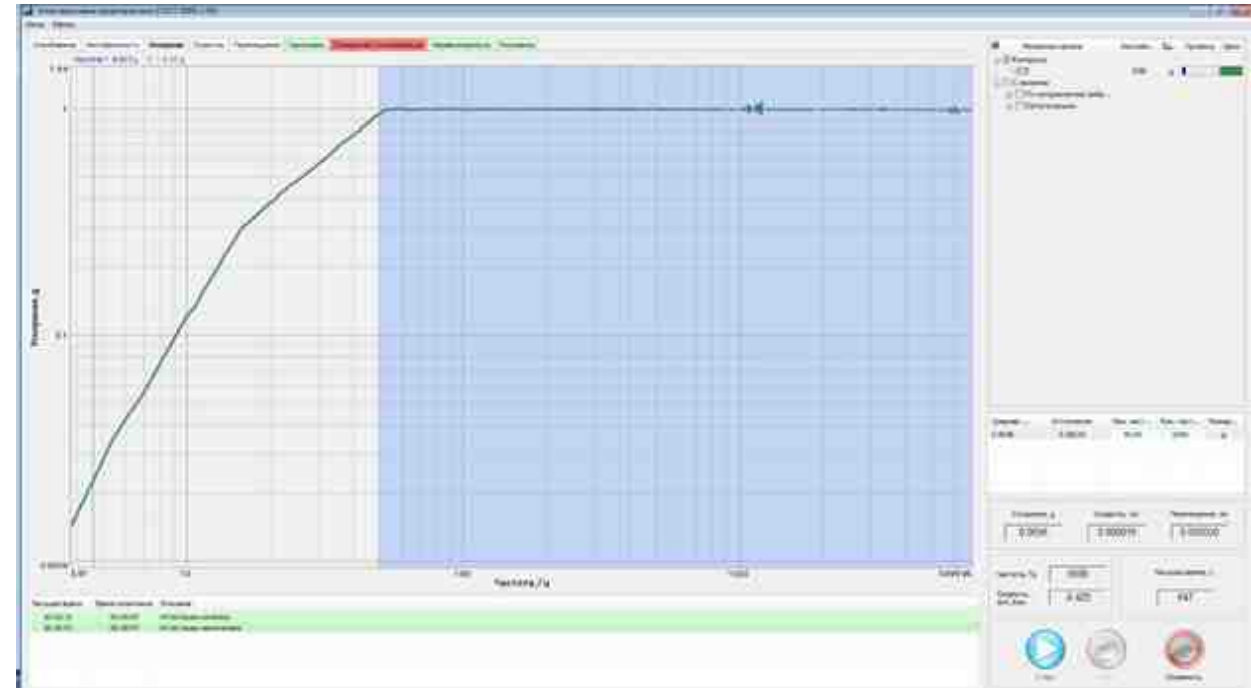
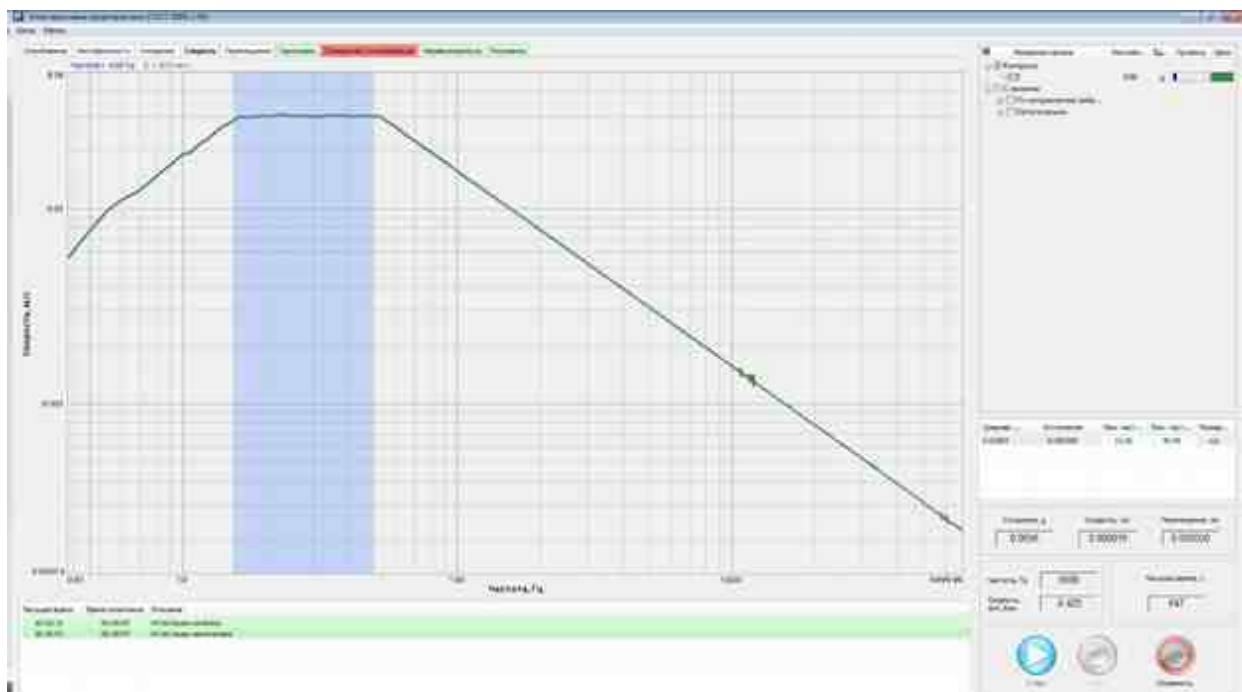
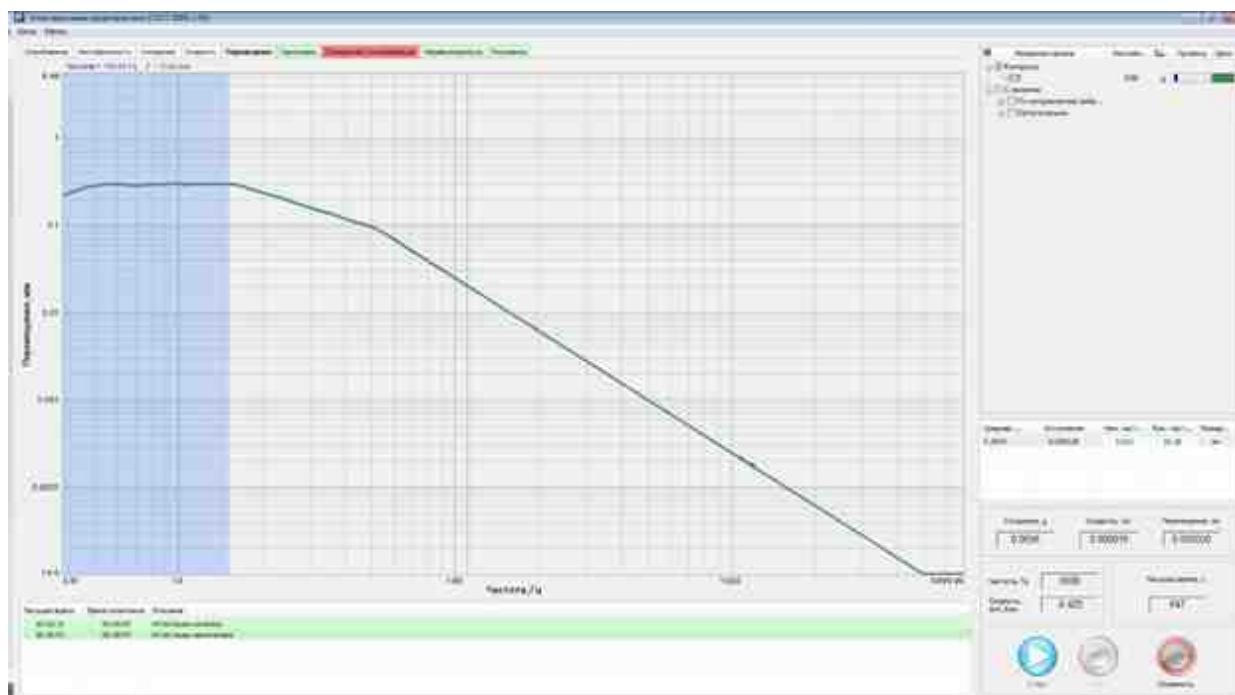

Fig. 6.5 Acceleration tab
Fig. 6.6 Velocity tab
Fig. 6.7 Displacement tab
5. At the end of the sine signal oscillation within the rated frequency range, the certification results recorded will be displayed on Acceleration (Fig. 6.5), Velocity (Fig. 6.6), and Displacement (Fig. 6.7) tabs (in numerical and graphical forms).